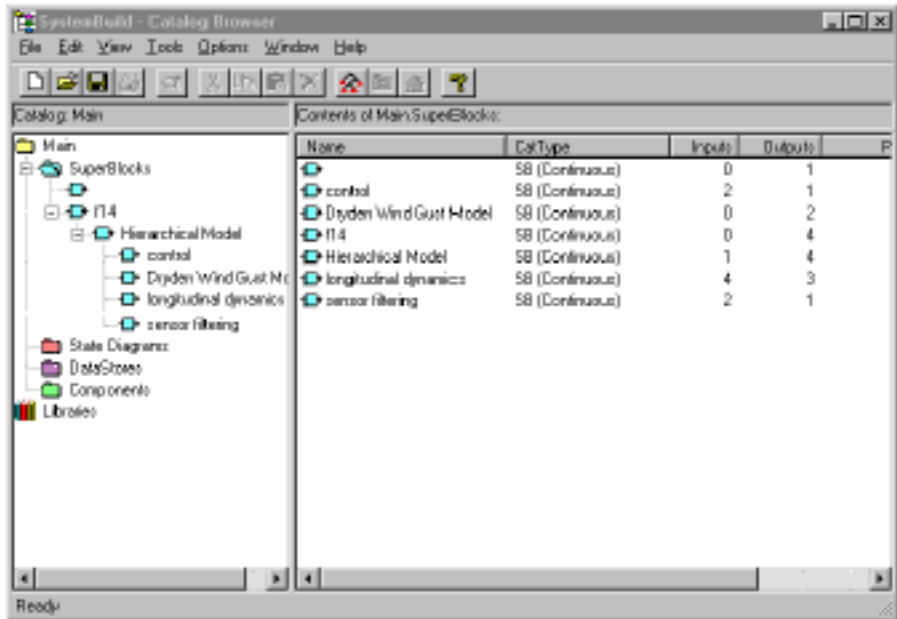

Figure 4-14. Expanded Hierarchy of the f14 Model
2. Continue expanding each level of the model (see Figure 4-14).